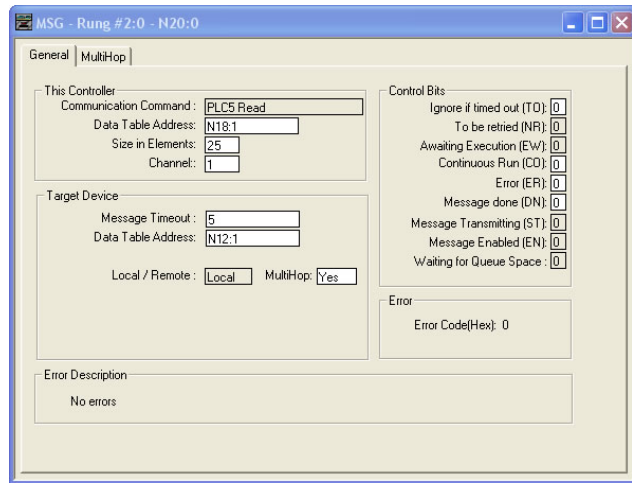

Figure 70: MSG Configuration, "General" Tab
- Upon hitting the <ENTER> key while in the “Control Block” entry box, the MSG Properties dialog box should appear (or it can be opened by clicking on the “Setup Screen” button at the bottom of the MSG instruction). Refer to Figure 70.